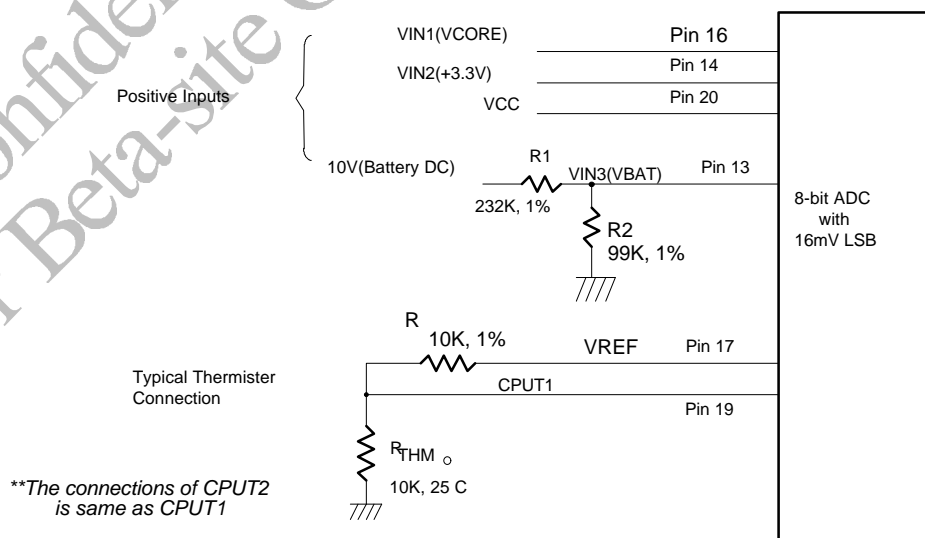

Figure. 10.
The maximum input voltage of the analog pin is 4.096V because the 8-bit ADC has a 16mv LSB. Really, the application of the PC monitoring would most often be connected to power suppliers. The CPU V-core voltage and +3.3V voltage can directly connected to these analog inputs. The 5VSB and battery inputs should be reduced a factor with external resistors so as to obtain the input range. As Figure 10 shows.
The W83L784R can connect three thermistors to measure three different environment temperature. The specification of thermistor should be considered to (1) β value is 3435K, (2) resistor value is 10K ohms at 25°C. In the Figure 10, the thermistor is connected by a serial resistor with 10K Ohms, then connect to VREF (pin 17).